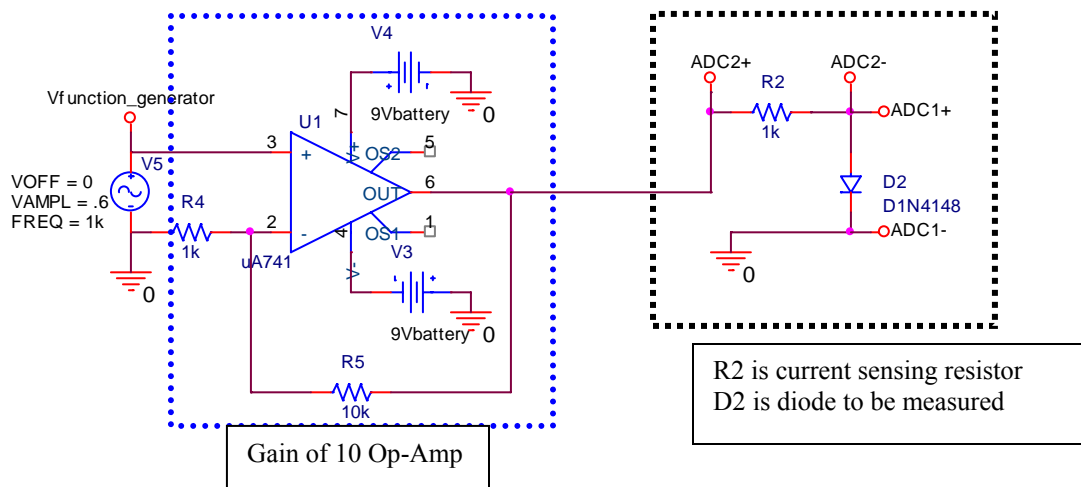

Figure A-7
- Wire the circuit shown in figure A-7 on your protoboard. The IOBoard can't create a large enough output voltage by itself, so you need to build a gain of 10 op-amp circuit. Use either the uA741 or the LF351 op-amp for this circuit. Don't use the MAX473, it doesn't run at 9V. Use two 9V batteries to power the op-amp.